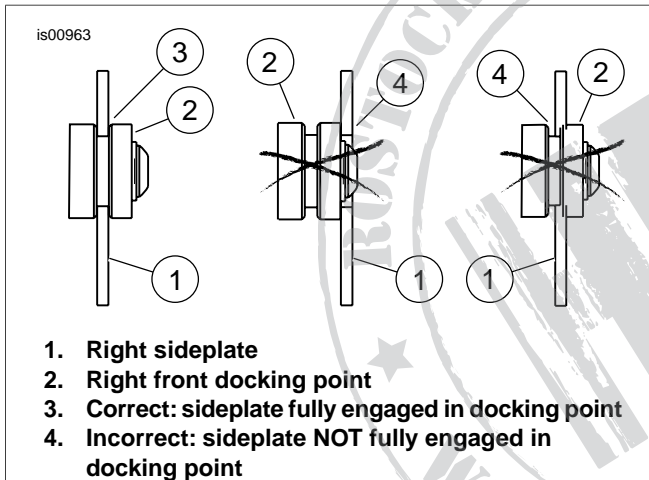
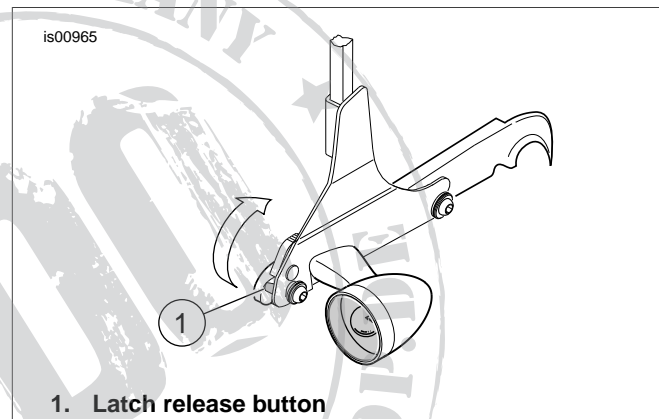

Figure 3. Sideplate Must Fit into Docking Point Correctly
Figure 5. Close Latches
See Figure 3 for views of correct and incorrect sideplate engagement.
Check alignment as shown in Figure 3. Failure to properly align the docking points and sideplates may result in damage to the rear docking points.
3. See Figure 5. Push down on the sideplates and close the latches by pressing the latch lever as far forward as it will go, as shown. You will hear a click when the latch has seated properly. **If the latch does not easily close, do not force it.** Re-check the alignment as described in Step 2 and Figure 3.
See Figure 5. To remove the sideplates, press the release button (1) and pull the rotary latch lever back. Carefully lift the rear of the sideplates up and pull the sideplates out of the front docking points.